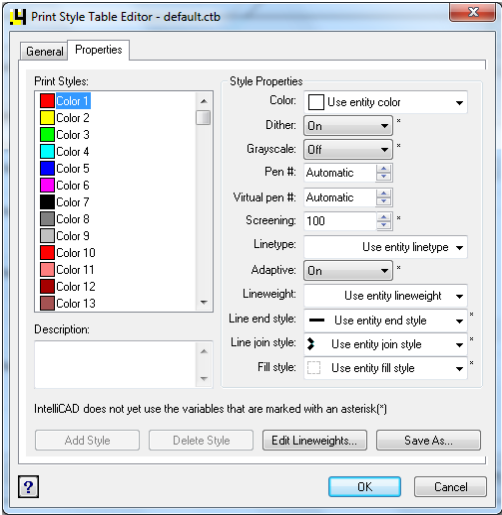

Fig. 322 – Print Style Table... dialog box
- in a newly opened dialog called **Print Style Table Editor – default.ctb** (Fig. 322), exactly in the **Print styles** section, click on the first **Color** position, press **<Shift>** and then press the last position (not releasing the **<Shift>** button);